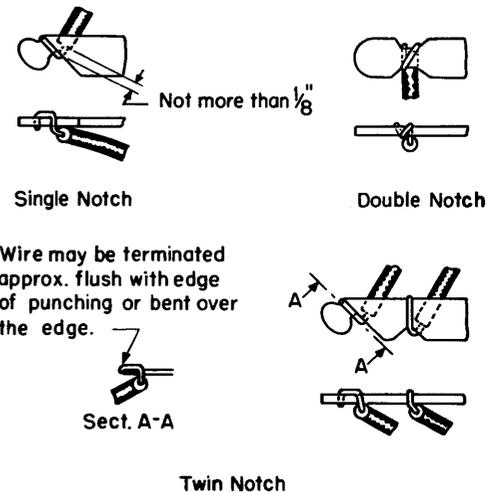

Fig. 4 - Connecting and Soldering Wires to Notched Punchings.
6.01 On single notch punchings (either with or without back notch for breaking off wires) draw the wires up into the connecting notch and bend over at an angle of 30° to 45° flat against the upper or right-hand side of the punching as shown on Fig. 4.
6.02 On double notch punchings, connect the wires as shown on Fig. 4, using one complete turn of bare wire where the wire approaches at right angles to the terminal and 1-1/2 turns where it approaches parallel to the terminal. When possible, wrap the wires around the punching in a clockwise direction.
6.03 On twin notch punchings, make connections as shown on Fig. 4. Where more than one set of leads are to be connected, supplementary information will specify which of the two notches is to be used for each set of leads. Where only one set of leads is required, connect them in the outer notches unless it is necessary to reserve these notches for strapping subject to change in service.